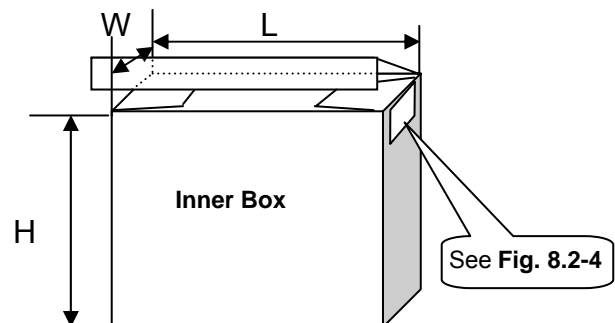

Fig. 8.2-3
2. Marking label on inner box (see Fig.8.2-3~4):